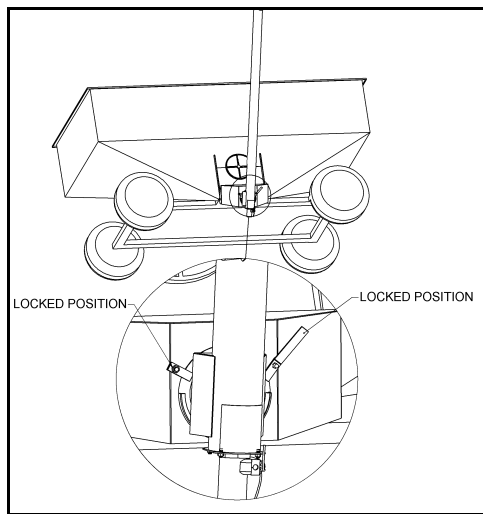

Figure 3.6
4. Swivel auger support clip and support locking bar to a locked position and tighten securely (Figure 3.6).